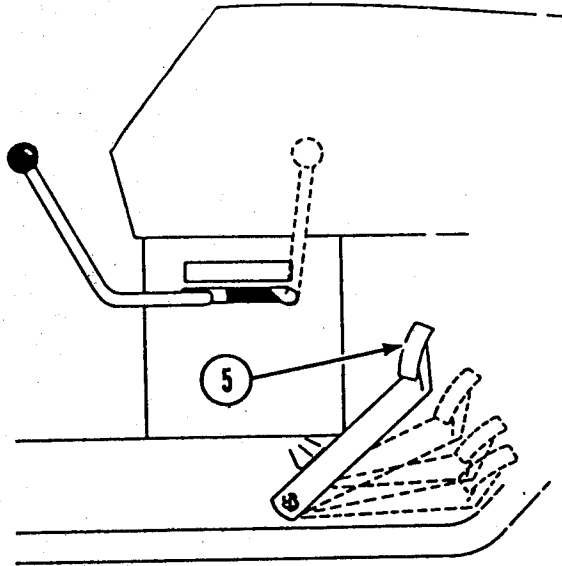

Figure 4
- ⑤ **CLUTCH BRAKE PEDAL** (Gear Shift Models) – Figure 4
1. Lock the parking brake (6) by depressing the foot pedal Figure 4, and pushing the brake lock forward to lock the parking brake.